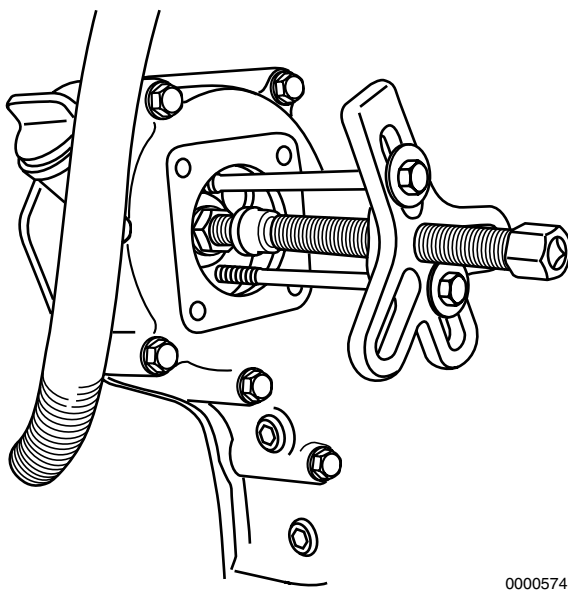

Figure 7-13
20. Remove the pump drive gear and hub as an assembly using an appropriate two-bolt gear puller (**Figure 7-13**).